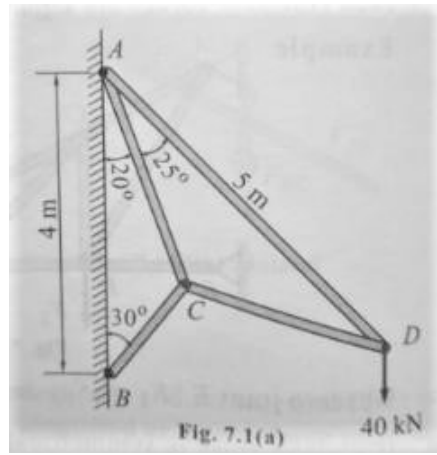

Figure 2: 3B
- (b) Find the force and its nature in member **AD** and **BC** for given cantilever truss loaded by 40 kN as shown in **fig 2** [7m]